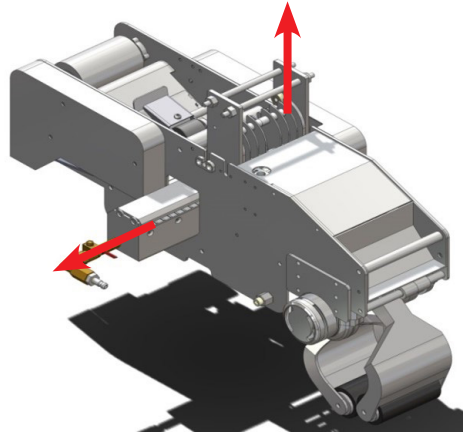

Figure 61: Remove Tape Shoe and Water Pot
2. Remove tape shoe and water pot from tape head, (refer to Figure 61), to gain access to cutter blade area.